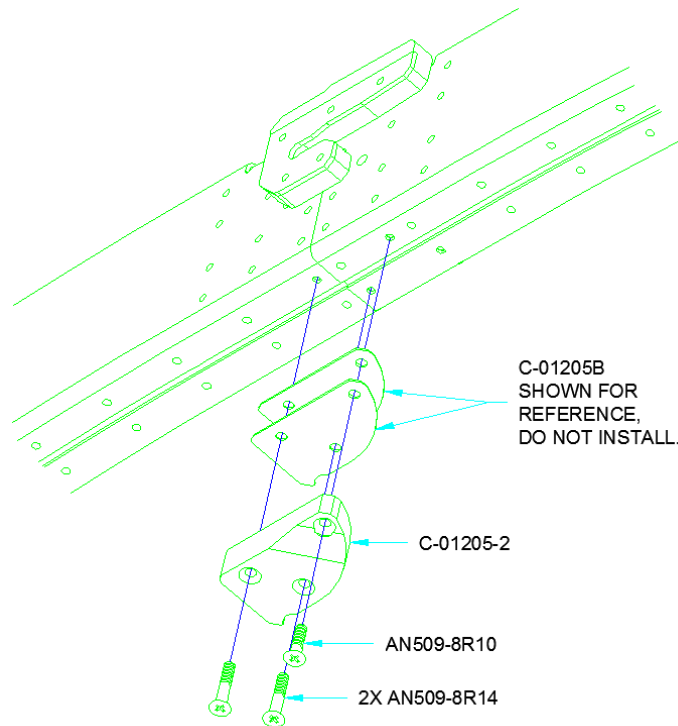

**FIGURE 5: ROLL BAR UPDATE**
Step 6: Machine countersink C-01213A for the heads of the rivets called out in the detail view in Figure 5.
Step 7: Remove the previously installed rivets and then machine countersink the five holes on the forward face of the Roll Bar Assembly indicated in the detailed view of Figure 5.
Step 8: Cleco the F-01231F-2 to the Roll Bar Assembly. Match-Drill #43 the switch mounting hole of the F-01231F-2 into the Roll Bar Assembly. See the detail view in Figure 5.
Step 10: Rivet C-01213A and C-01213B to the Roll Bar Assembly. See Figure 5.
Step 11: Fill the open holes on the front and back sides of the roll bar frame as called out in Figure 5.